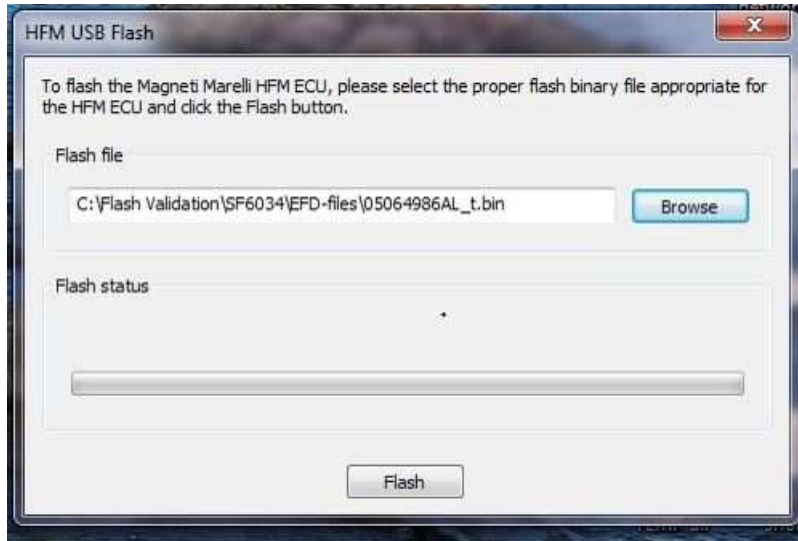

Fig. 4
5. Place the vehicle ignition to the "RUN" position and then start the application. You will be prompted to browse for the HFM flash file. Navigate to the location of the flash file that you extracted. The flash file will have a ".bin" extension. Click on the "Flash" button (Fig. 4) .